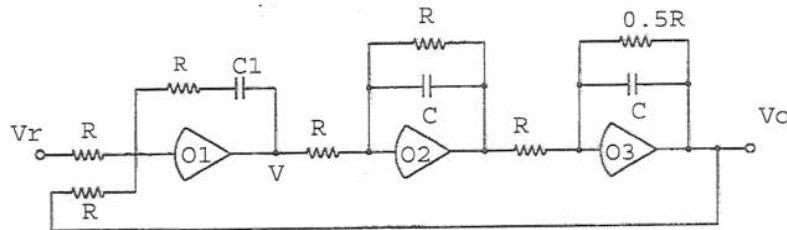

Figure 2
2. Consider the feedback arrangement shown in Figure 2 which is used to simulate a control system. The operational amplifiers $O1$, $O2$ and $O3$ are in the negative feedback mode, so that the positive input terminal is earthed and the inputs are connected to the negative terminals. Assume that the operational amplifiers are ideal, so that we can make the virtual earth assumption.